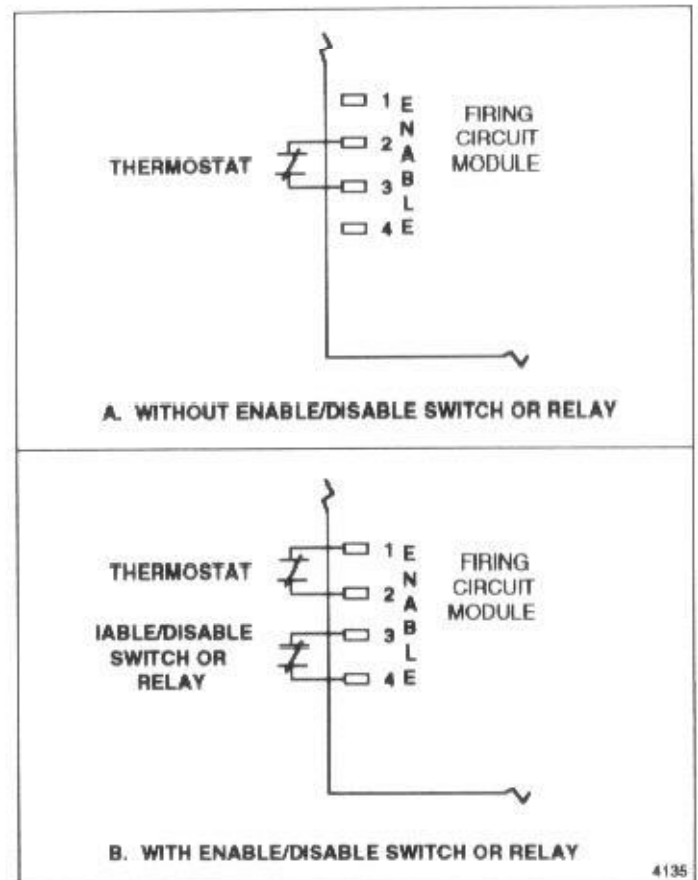

Figure 2–7. Connecting enable/disable switch to firing circuit module.
The controller can be enabled and disabled by means of an “enable/disable” switch (not supplied) the user installs and connects to the **ENABLE 3** and **4** terminals on the firing circuit module as shown in figure 2–14 (for 664D) or figure 2–15 (for 664E).
1. Move the thermostat connection on the firing circuit module from the **ENABLE 3** terminal (where it is shown in figure 2–7A) to the **ENABLE 1** terminal (where it is shown in figure 2–7B).
Connect external indicators or devices that operate on contact *closures* between the **C** (common) terminal and the **NC** (normally closed) terminal (see figure 2–8). Connect external indicators or devices that operate on contact *openings* between the **C** (common) terminal and the **NO** (normally open) terminal (see figure 2–9 for wire-connection procedure).